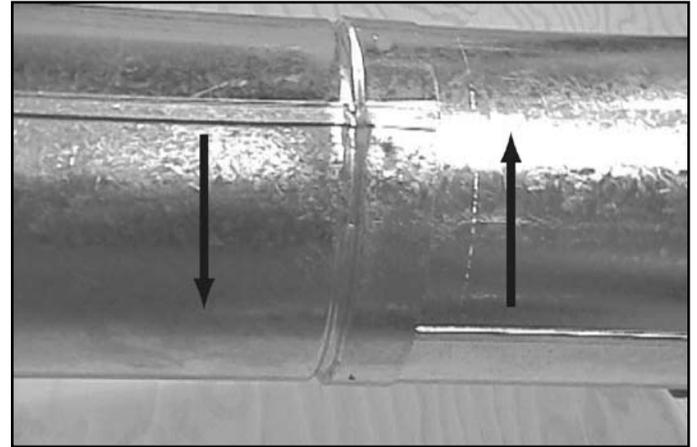
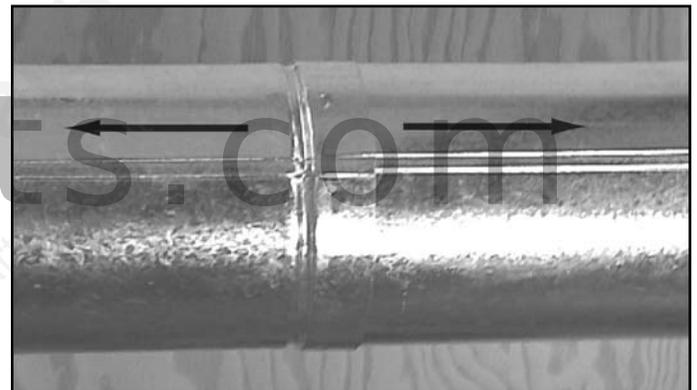

Figure 10.6 Rotate Seams for Disassembly
Figure 10.7 Align and Disassemble Vent Sections
- Rotate either section (see Figure 10.6) so the seams on both pipe sections are aligned as shown in Figure 10.7.